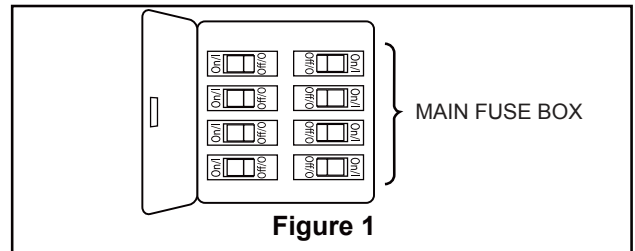
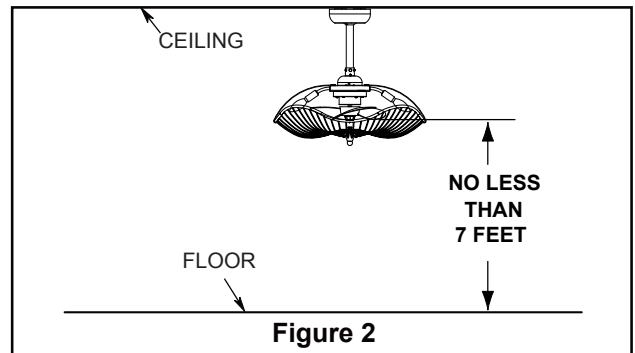
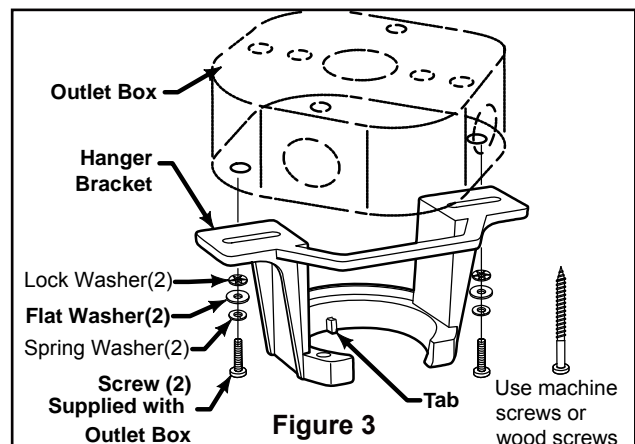

Figure 1
Figure 2
Figure 3
Your new ceiling fan will require a grounded electrical supply line of 120 volts AC, 60 HZ, 15 Amp Circuit. Electrical code requires use of a fan-rated outlet box to support the extra weight and motion associated with a ceiling fan. A fan-rated box will be labeled as such and typically supports up to a 70lbs ceiling fan. Fan-Rated Outlet Boxes vary in ratings and design. Ensure the ratings of your ceiling fan outlet box meet the requirements for the ceiling fan being installed. Figure 1, Figure 2 and Figure 3 depicts different structural configurations that may be used for mounting the outlet box.
Low-profile use (Figure 1)
Deep-profile use (Figure 2)
Brace use (Figure 3)
1. Remove the hanger ball portion from the downrod/hanger ball assembly by loosening the set screw in the hanger ball until the ball falls freely down the downrod. Remove the pin from the downrod, then remove the hanger ball. Retain the pin and hanger ball for reinstallation in Step 6. (Figure 1)
2. Remove the hairpin clip and clevis pin from the bottom of the downrod. Retain the pin and clip for reinstallation in Step 4. (Figure 2)
3. Loosen the two set screws in the downrod support of the motor assembly. Route the black, white, blue green wires through the downrod. (Figure 3)
To avoid possible fire or shock, be sure electricity is turned off at the main fuse box before hanging. (Figure 1)
The fan must be hung with at least 7' of clearance from floor to blades. (Figure 2)
- ☐ 1. Securely attach the hanger bracket to the outlet box using the outlet box screws and washers supplied with the outlet box. (Figure 3)
1. To set the code on receiver unit, slide dip switches to the same positions as set on the remote. (Figure 1)
To avoid possible electrical shock, be sure electricity is turned off at the main fuse box before wiring. (Figure 2)
2. Slide the receiver into the hanger bracket before wiring as shown in figure 3.
- ☐ 1. Align the canopy hole with the screw hole of the hanger, Install using the 2 screws previously removed and lock in 2 screws to fix the canopy, taking care not to pinch the wires. Tighten screw. (Figure 1)
- ☐ **2.** Restore electrical power to the outlet box by turning the electricity on at the main fuse box. (Figure 2)